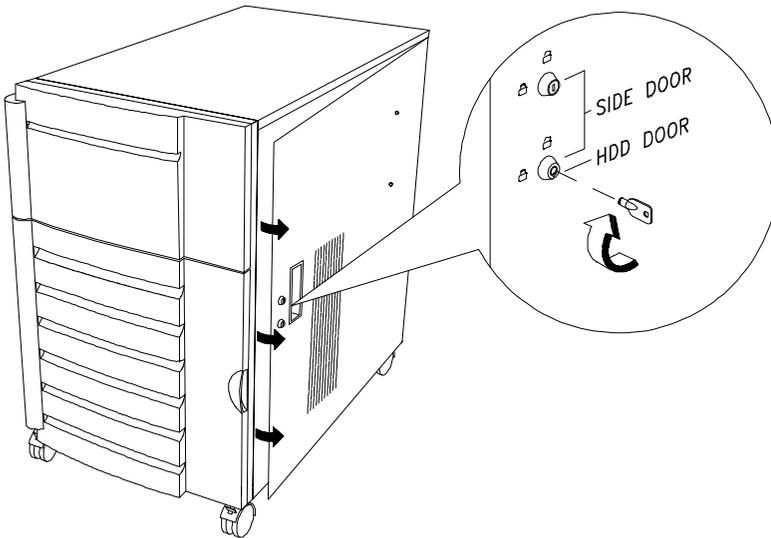

Figure 3-5 Unlocking and Opening the Lower Front Door
1. Remove the upper front panel door and the front panel cover. See Figures 3-5 and 3-6 for illustrations.